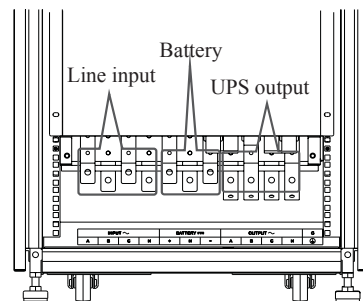

Fig. 5-9
- 2) Connect the UPS input, output and battery wires to the corresponding copper bars frontally through the wire cushion rubbers on the rodent-resistant board according to the marks (the copper bar marks are shown as Fig. 5-9).